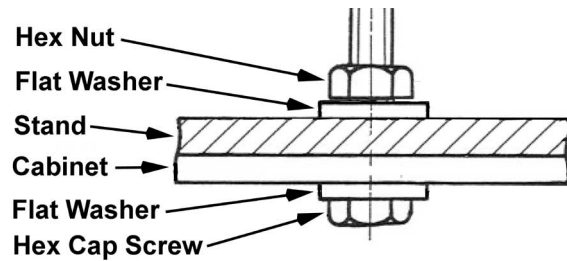

Figure 4
2. Attach the saw to the stand with four M8x20 hex cap screws, eight M8 flat washers and four M8 hex nuts using Figure 4 as a guide. Tighten the saw to the stand hardware firmly.